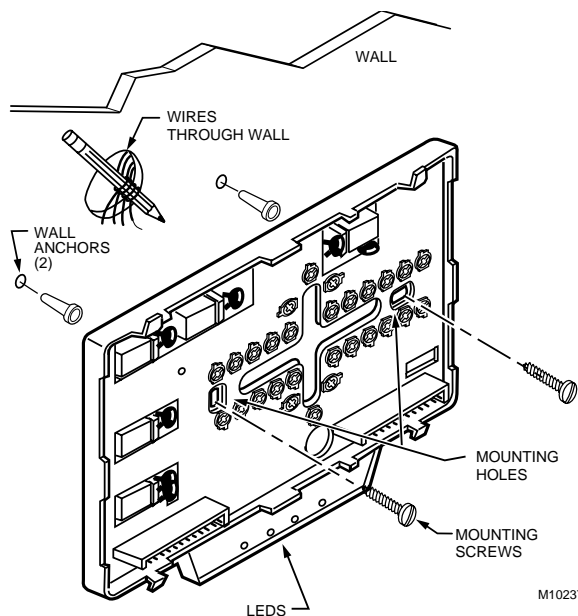

Fig. 8. Mounting subbase or wallplate.
2. Use a pencil to mark the mounting holes. See Fig. 8.